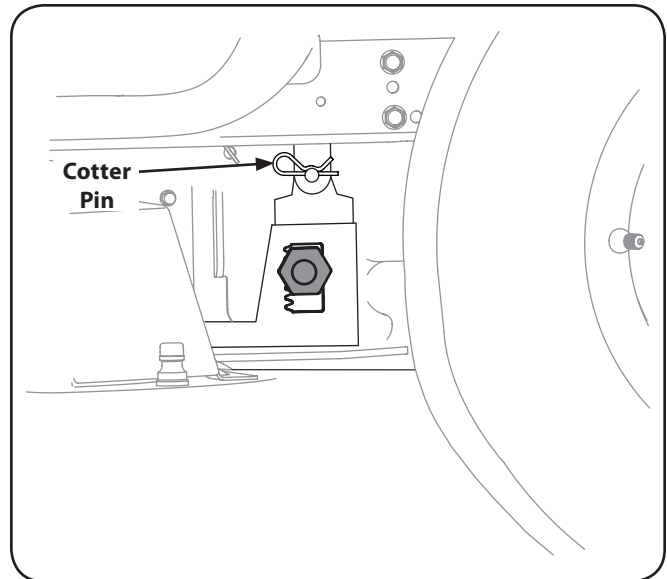

Figure 7-6
6. Pull the cotter pins out of the four deck lift adjustment brackets. See Fig. 7-6.